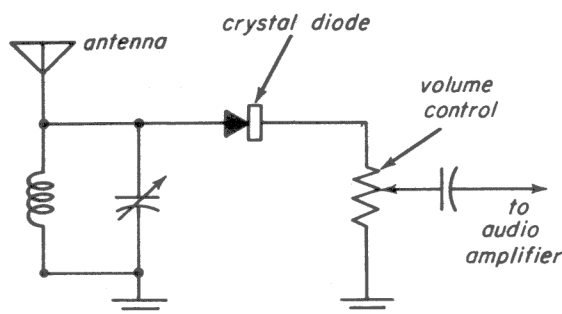

Fig. 27-5
Step 9. Connect a lead from the GND terminal of the antenna coil through the hole on the left side of the capacitor to lug 1 (chassis) of TS-G. You have wired a simple crystal detector. Compare your circuit with the schematic shown in Fig. 27-5 before you proceed.